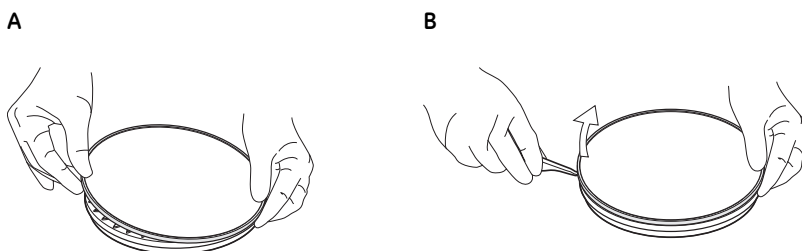

Figure 6.8: Remove the snap ring and the bed support from the distributor by hand (A) or using the removal tool (B).
- 3 Remove the snap ring [421b] and the bed support [302] from the distributor [404] (see *Figure 6.8*). Discard the snap ring and the bed support.